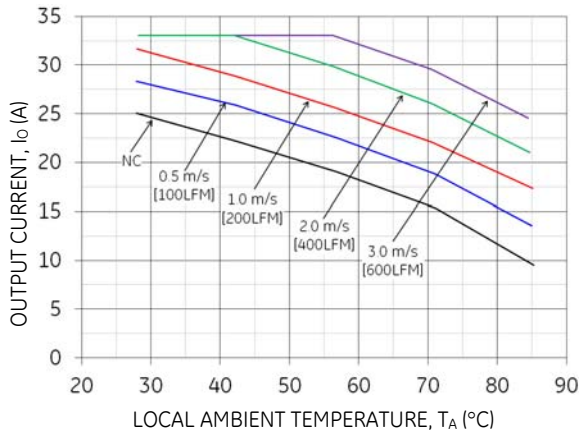

Figure 19. Output Current Derating for the Open Frame QBWV033A0B in the Transverse Orientation; Airflow Direction from Vin(-) to Vin(+); Vin = 48V.
Increased airflow over the module enhances the heat transfer via convection. The thermal derating of figure 19- 23 shows the maximum output current that can be delivered by each module in the indicated orientation without exceeding the maximum THx temperature versus local ambient temperature (TA) for several air flow conditions.
The use of Figure 19 is shown in the following example:
Given: Vin = 48V, Io = 20A, TA = 60 °C Determine required airflow velocity (Use Figure 19):